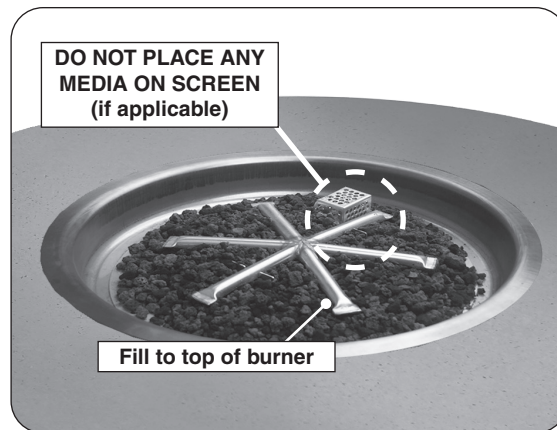
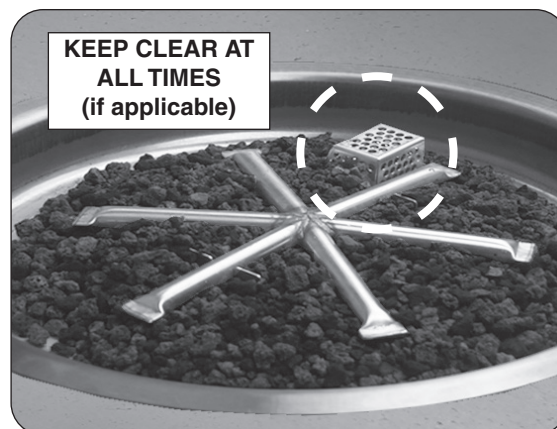

Fig. 38-1 Place lava granules
Fig. 38-2 Screen detail (if applicable)
1. Pour the 5 or 10 lb bag of lava granules into the burner pan (with the exception of the screen - if applicable). Spread the granules within the burner area as shown in Fig. 38-1 and Fig. 38-2. **Only fill the granules up to the top of the burner tube.**